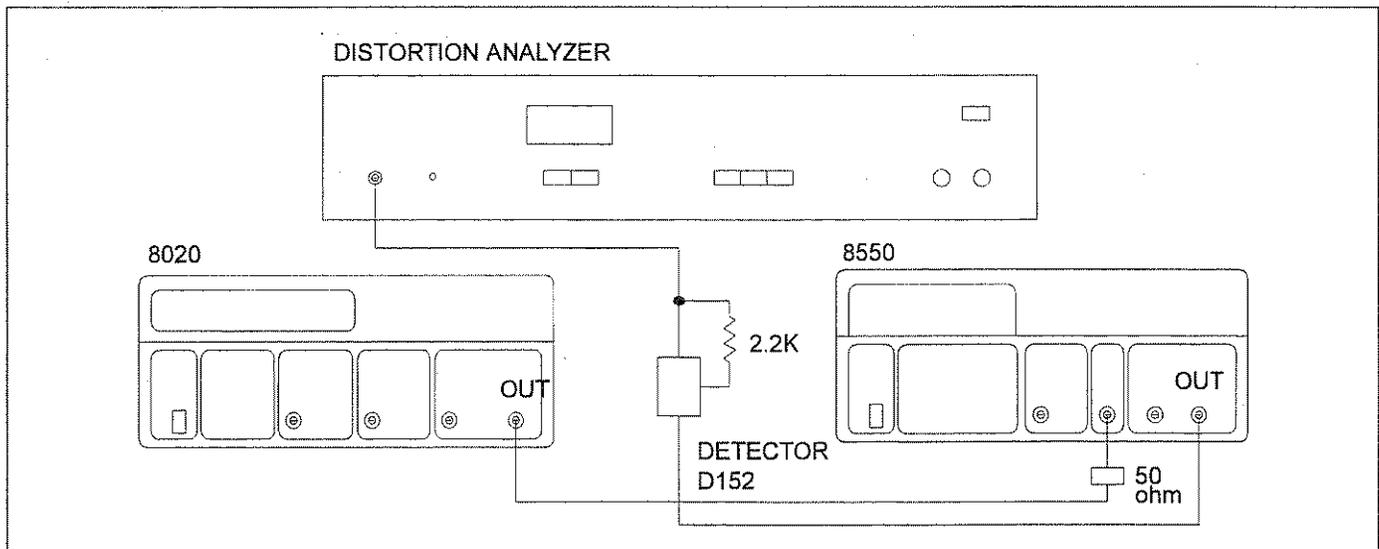

Figure 5-3. Amplitude Modulation Operation Check
2. Connect test set-up as described in Figure 5-3.